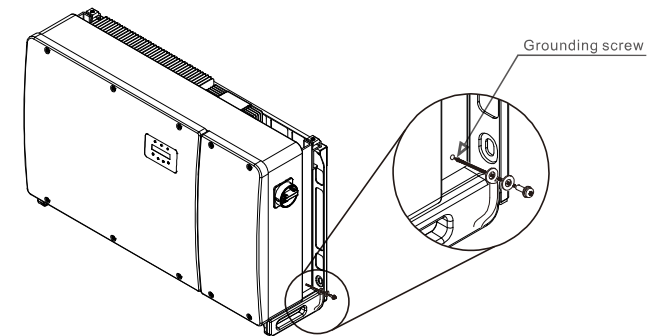

Figure 3.17 Fixed cable
- 6) Connect the grounding cable to the grounding point on the heat sink, and tighten the grounding screw, Torque is 6-8Nm (see figure 3.17).